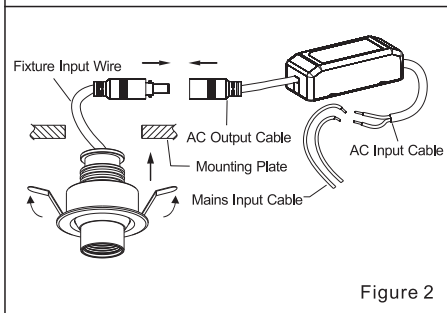

Figure 2
2. Connect the mains input lines (live/brown wire to L, neutral/blue wire to N) to the input terminals of the driver. Connect the fixture output lines to the driver's output terminals, ensuring secure connections with insulated tape. For threaded installation: Secure the fixture to the mounting plate first, then proceed with wiring to prevent loosening. (Figure 2/3)